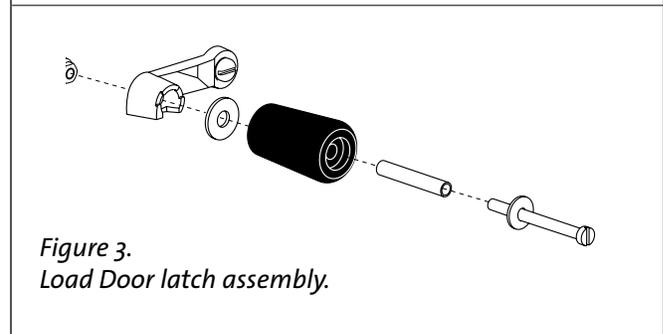

Figure 3.
1. Locate the white washer between the handle and the knob and attach to the door latch as shown in **fig. 3**.